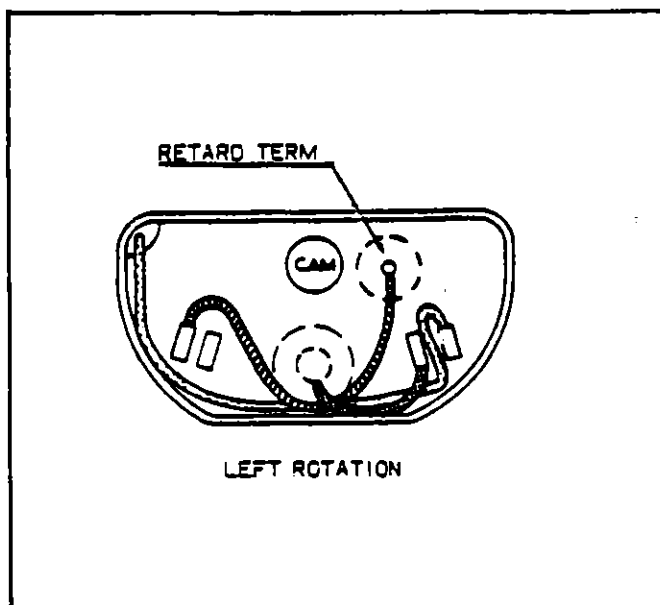

FIGURE 7-9. LEAD POSITIONING
- e. Look for frayed insulation or broken wire strands in leads in back of magneto. See that terminals are secure. Be sure wires are properly positioned. The position of the leads in the 200 series breaker compartment must be as shown in Figure 7-9, otherwise chafing or breaking may result.